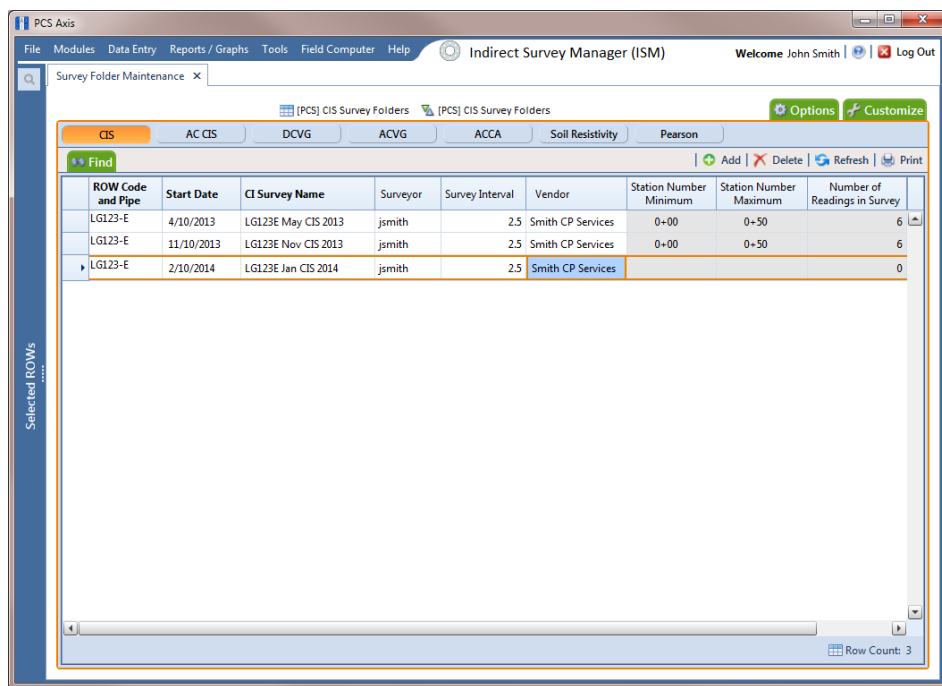

Figure 6-7. Survey Folder Maintenance
- 10 Click  **Save** to close the *Add Record* dialog box and add a row of records in the grid for the new continuous survey folder (Figure 6-7).
- 4 Click a button labeled with the type of continuous survey folder you want to delete. For example, click the **CIS** button  to delete the survey folder and associated survey readings for a close interval survey (Figure 6-7, page 188).